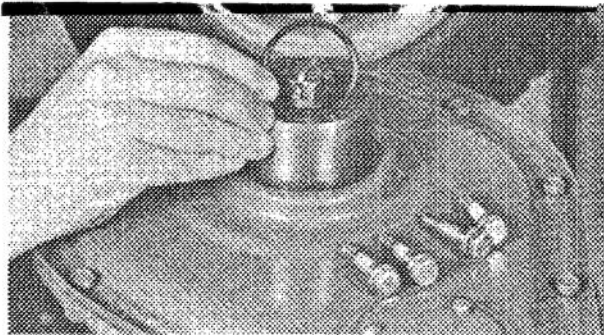

Figure 20
1. Remove four (4) capscrews securing wheel to wheel hub. Remove wheel from hub.
2. Remove "O" ring from inside of hub (Fig. 20).